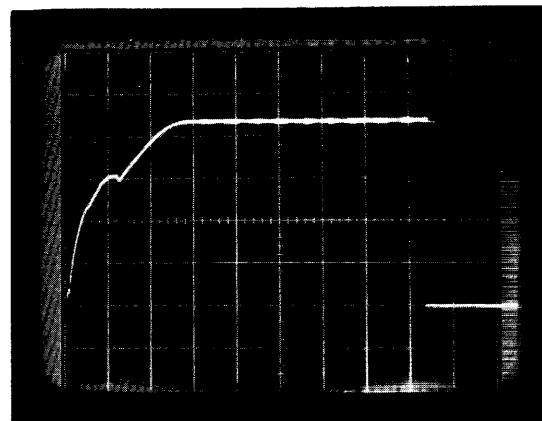

Figure 30.5
### 30.2 Refer to Figure 30.5
30.3 Figure 30.5